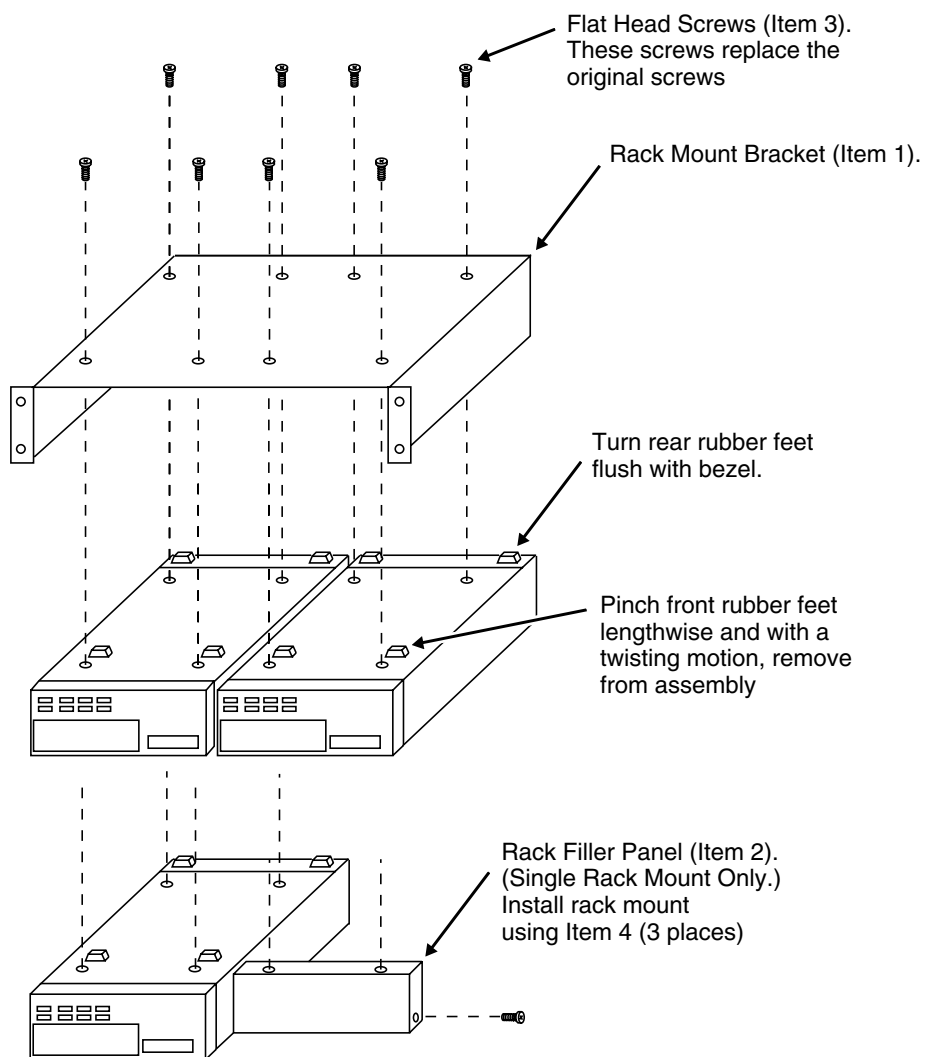

Figure 1. Mounting the Instrument(s) to the Rack Mount Bracket
2. Refer to Figure 1 for steps 2 through 6. Turn the two rear feet so they are flush with the rear bezel.